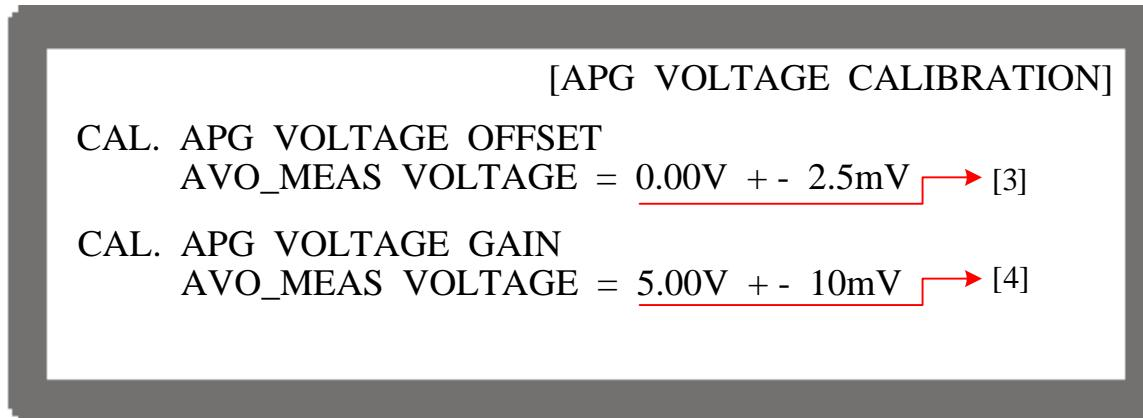

Figure 3-120
6. Press "" again the cursor stops at position [3] as Figure 3-120 shows. Open the device cover to find VR402 (adjustable resistor) on the PCB of 62xxxP-xx-xx C ver.x. Make the DVM2 reading of Pin5 to be $0.00V \pm 2.5mV$ by adjusting the resistance of VR402. Once the reading is adjusted correctly, press " ENTER" to confirm it.
7. Press “” again the cursor stops at position [4] as Figure 3-120 shows. Open the device cover to find VR401 (adjustable resistor) on the PCB of 62xxxP-xx-xx C ver.x. Make the DVM2 reading of Pin5 to be $5.00V \pm 10mV$ by adjusting the resistance of VR401. Once the reading is adjusted correctly, press “” to confirm it.